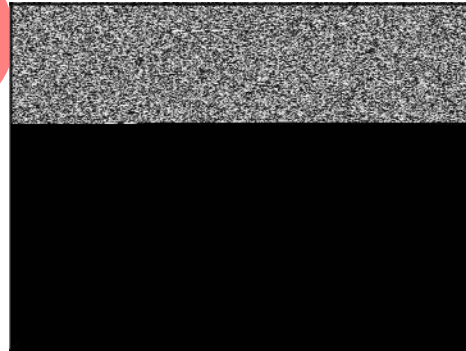

Figure 41
7. Connect other test lead to crankcase cover (Figure 41). If meter reads Zero resistance, replace sensor in crankcase cover. If meter reads some resistance, go to next step.